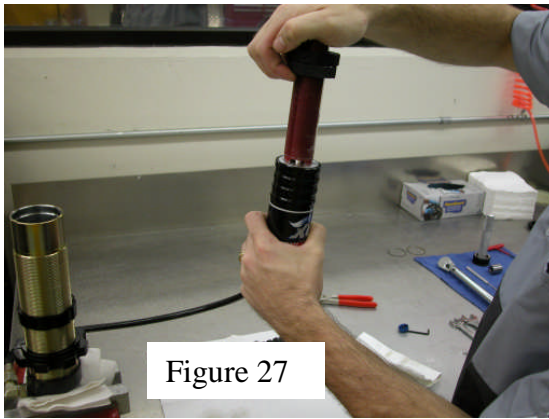
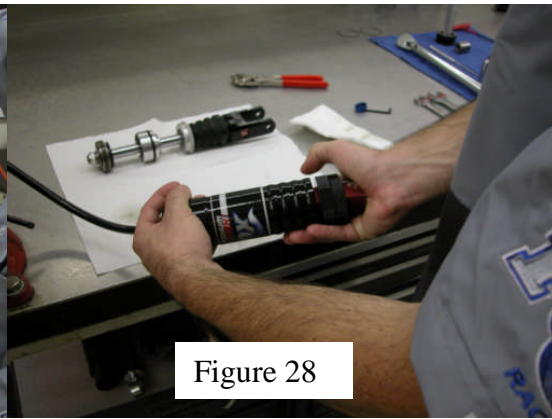

Figure 27
Figure 28
43. Hold the reservoir tube at a level that is below the shock body tube with the open-end facing up. Fill the reservoir to retaining ring groove with Fox 5wt. shock oil (#803-11-000-A). You should see bubbles rising to oil surface. Wait until bubbling slows or stops completely. If oil level has fallen, add more oil until level is at retaining ring groove. Insert IFP into reservoir with the bleed screw removed. Use a smooth motion and push straight in until o-ring seats into the retaining ring groove, allowing oil to overflow. Install the IFP bleed screw. Back the compression adjustment knob all the way out. Use your free hand to wrap new piston band around IFP with the rounded edge out, and push the IFP into the reservoir until the edge is flush with the end of the reservoir. **(Figure 27)** Be careful not to pinch the piston band. Now, holding the reservoir below the body tube with the compression adjuster side up, push IFP into reservoir tube until it bottoms out inside. **(Figure 28)** You should see large air bubbles rise to the surface of the oil in the body tube.